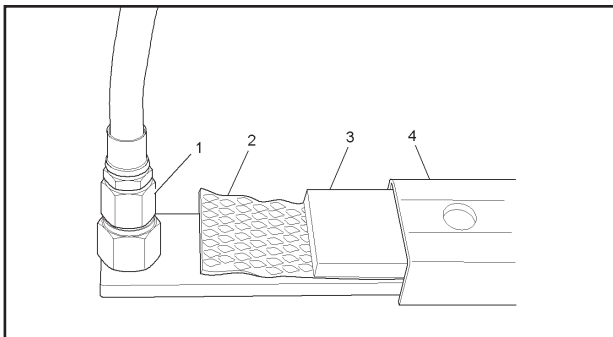

FIGURE 3-14
Each element (1) used has a thin strip of insulation (2) over it to keep the heat of the element from escaping. A support bar (3) is then laid over the element, and a shield (4) protects the element assembly (See Fig. 3-14). Each element is clamped down to the screed plate so as to provide a positive and efficient connection between the element and the screed plate. To help ensure a good transfer of heat from the element to the screed plate, a heat transfer compound is used. This compound should be applied sparingly to the lower surface of the element with a putty knife or